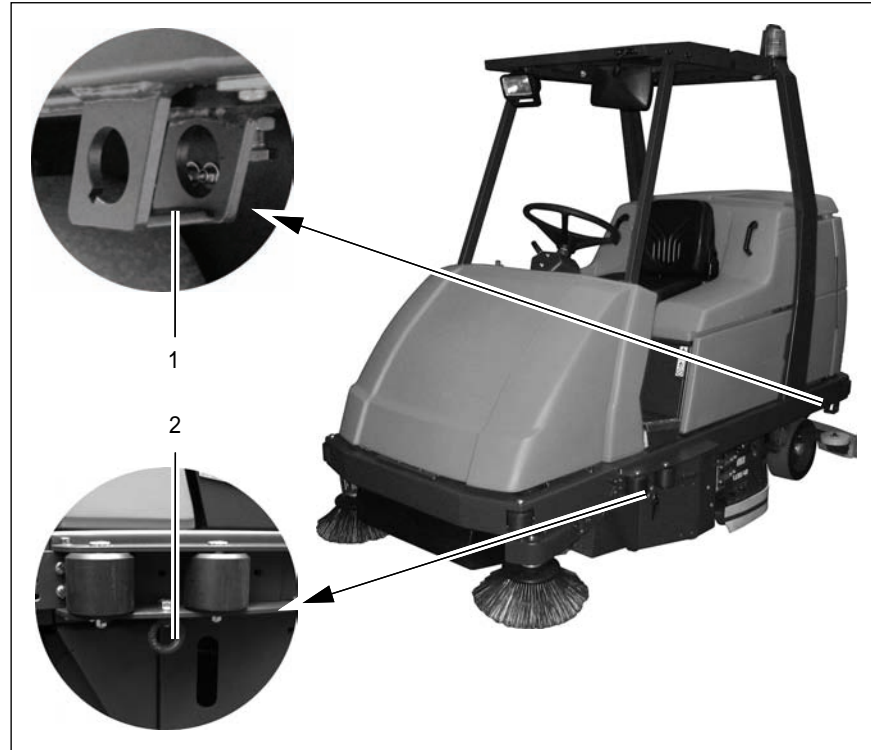

Fig. 45
- When the vehicle is to be transported on another vehicle or trailer, it must be secured against rolling away. Lash the vehicle down securely. The vehicle is provided with attachment points (lashing eyes) on the left and right-hand side to do this: at the rear of the frame and on the sides at the height of the entry area (Fig. 45/1+2).